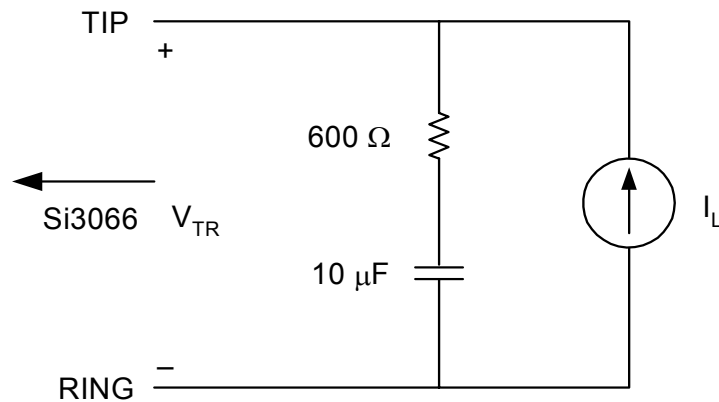

Figure 1. Test Circuit for Loop Characteristics
($V_D = 3.0$ to 3.6 V, $T_A = 0$ to 70 °C, see Figure 1)
1. Measured at TIP and RING with 600Ω termination at 1 kHz, as shown in Figure 1.